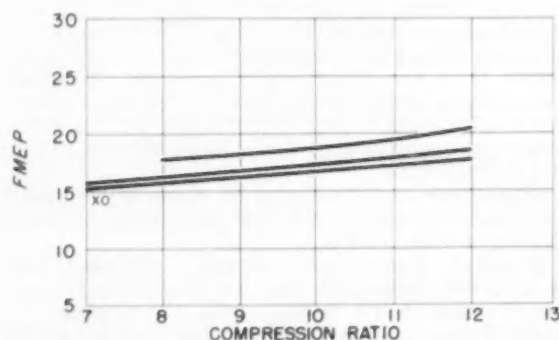

Fig. 3—Friction related to compression ratio for XO-121 engine and two V-8 passenger car engines with equal piston speeds (1200 fpm).
Several new materials have appeared recently, although we are still a long way from solving all our problems. New silicone rubbers, polyacrylate rubber, poly FBA rubber, Kel-F Elastomer, Teflon, and Kel-F plastics look the most promising. Fig. 3 shows the effect of aging in air on tensile strength and elongation of several types of rubbers.
Fig. 3—The effect of air-aging on tensile strength and elongation varies considerably with the type of high-temperature rubber. In the above graphs the types are: (1) Buna N, 350 F, (2) DC-160, 480 F, (3) DC-50, 400 F, (4) Hycar 4021, 350 F, (5) Poly FBA, 350 F, (6) Kel-F Elastomer, 400 F, (7) Kel-F Elastomer, 490 F.
The XO-121 engine's friction characteristics were compared with two high-performance V-8 passenger-car engines. Fig. 3 shows the effect of compression ratio on friction mean effective pressure at the same equivalent mean piston speed. It indicates that a lower stroke-bore ratio might improve the friction level even more. However, actual gain could be counteracted by an accompanying decrease in indicated thermal efficiency. Reducing friction also increases economy, especially at part throttle.